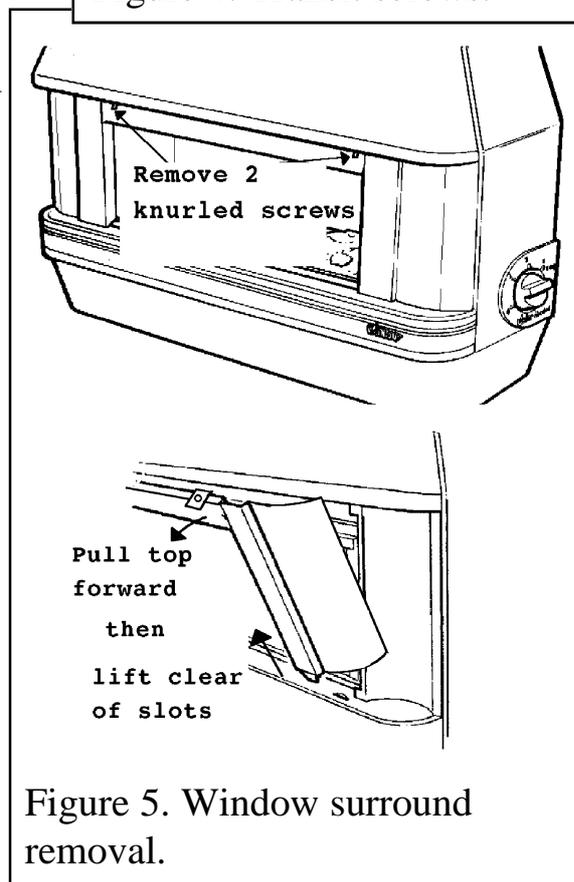

Figure 5. Window surround removal.
5.3.3. Detach the window surround (See figure 5).